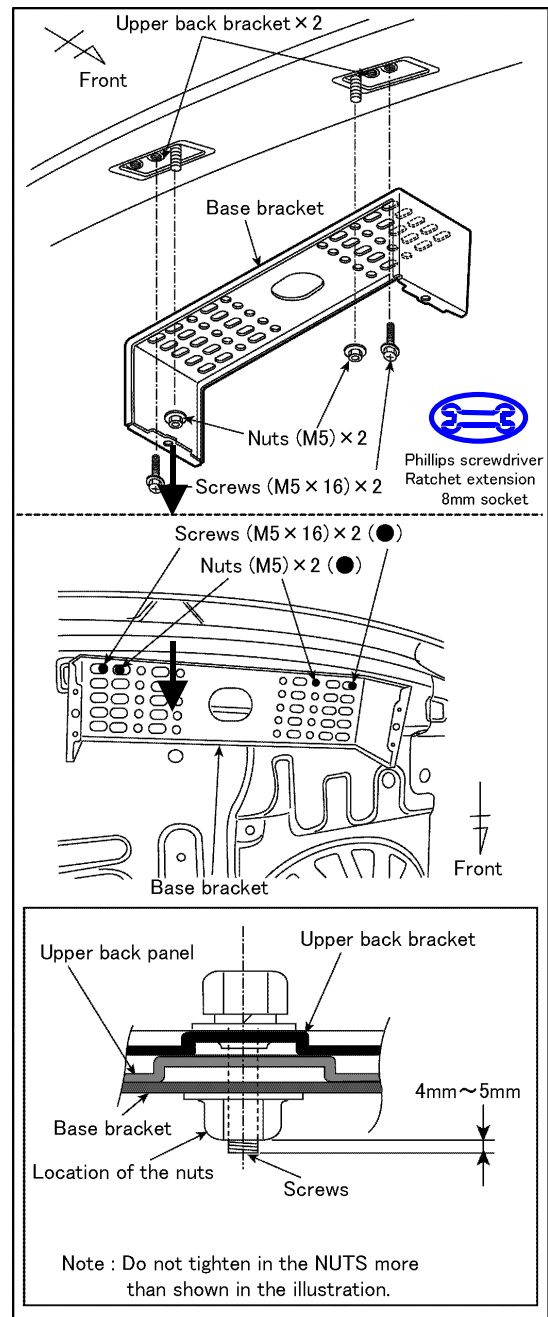

Figure R1
-  1. Attach base bracket to upper back bracket by hand tightening nuts and screws. (Figure R1)
-  2. Tighten bolts using 8 mm socket. Be sure there is no more than 4 mm to 5 mm of distance between screw and nut as shown in illustration. (Figure R1)